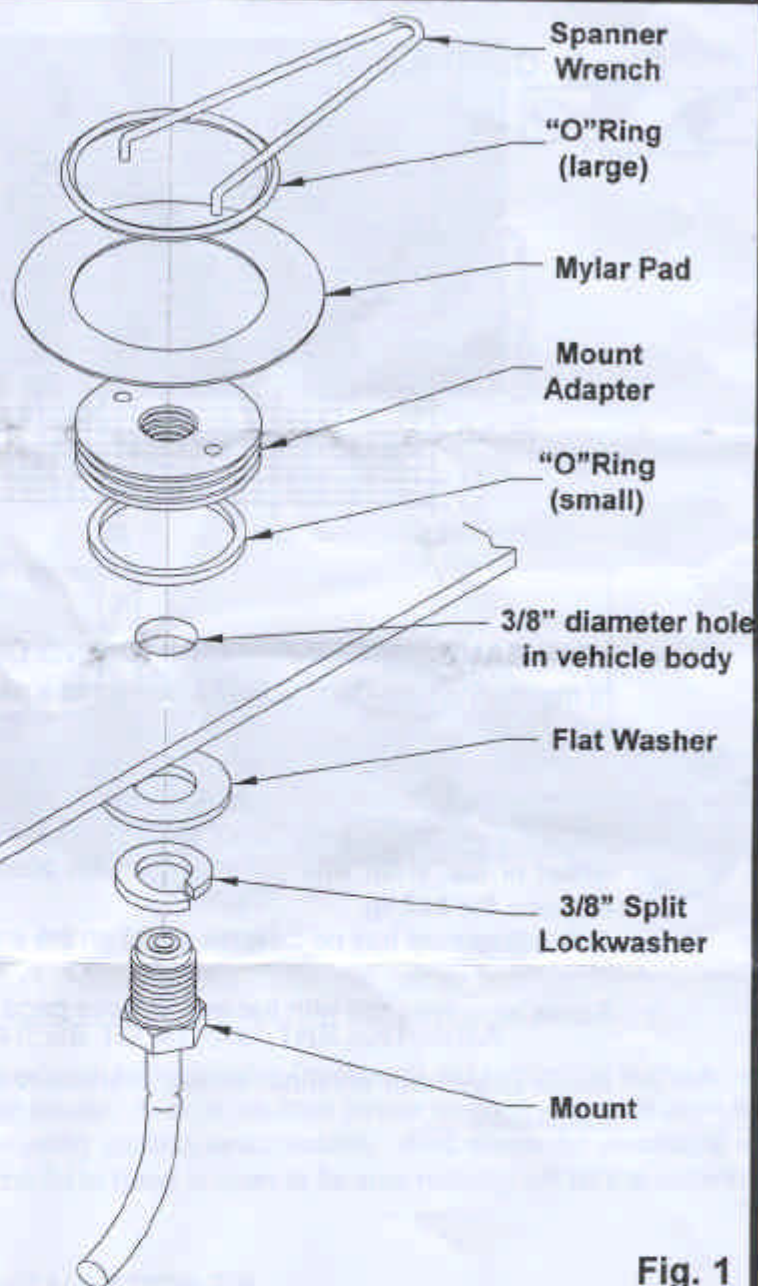

Fig. 1
- Push mount up through hole with flat washer and lockwasher (Fig. 1). Screw adapter onto mount with small "O" ring in groove on underside of adapter. A light application of PTFE lubricant on the "O" ring will hold it in the adapter groove during installation.